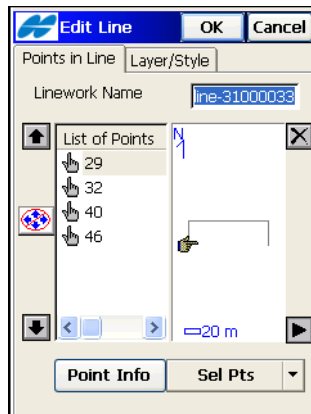

Figure 6-34. Edit Points in Line
- **Edit** – opens the applicable **Edit Line** screen (Figure 6-34 on page 6-28).
On the **Edit Line** screen (Figure 6-34), you can edit the points and the layer of the selected linework.
The *Point in Line* tab displays a list of existing points in the selected Linework on the left side of the screen, and the general view of the linework on the right side (Figure 6-34).